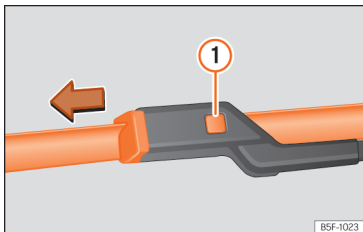

Fig. 188 Changing the windscreen wiper blades
- Press and hold release button >>> Fig. 188 ① and pull gently on the wiper blade in the direction of the arrow.